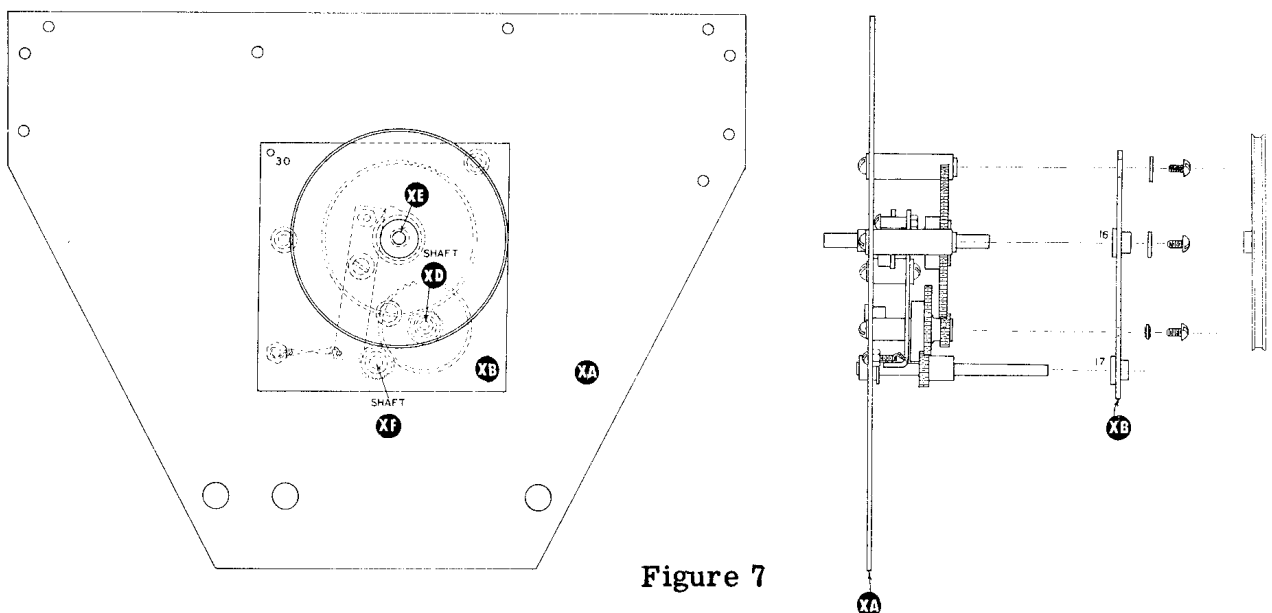

Figure 7
- () Refer carefully to Figure 7, 8 and 9. Locate the parts illustrated and note their designation. Parts will be given two letter designations (XA, XB, etc.), and holes will be numbered.
- () Now place the front plate XB in position, referring to Figure 7. The shaft XE will enter bearing 16 and the shaft XF will enter bearing 17. Mating holes in XB for the spacers XC and cluster gear shaft XD will now be readily apparent. Make sure the shoulders of the spacers XC are properly seated. Now secure the front plate with #6-32 x 3/8" RHMS and #6 washers and a #6 washer in XD. Do not worry about adjustment yet.